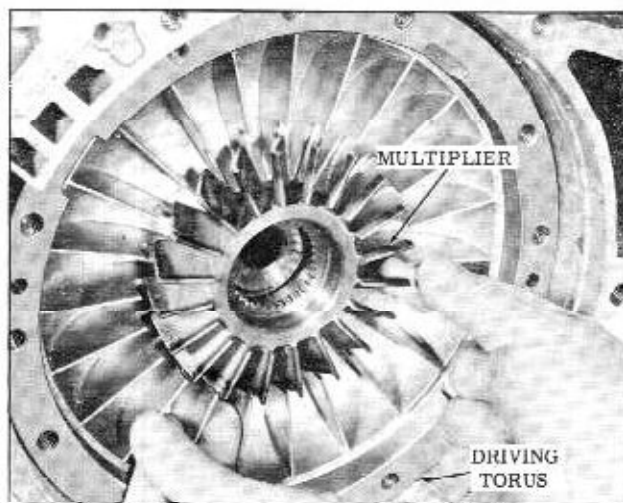

Fig. 3-47 Removing Drive Torus
44. Remove the drive torus and torque multiplier as a unit. (Fig. 3-47)